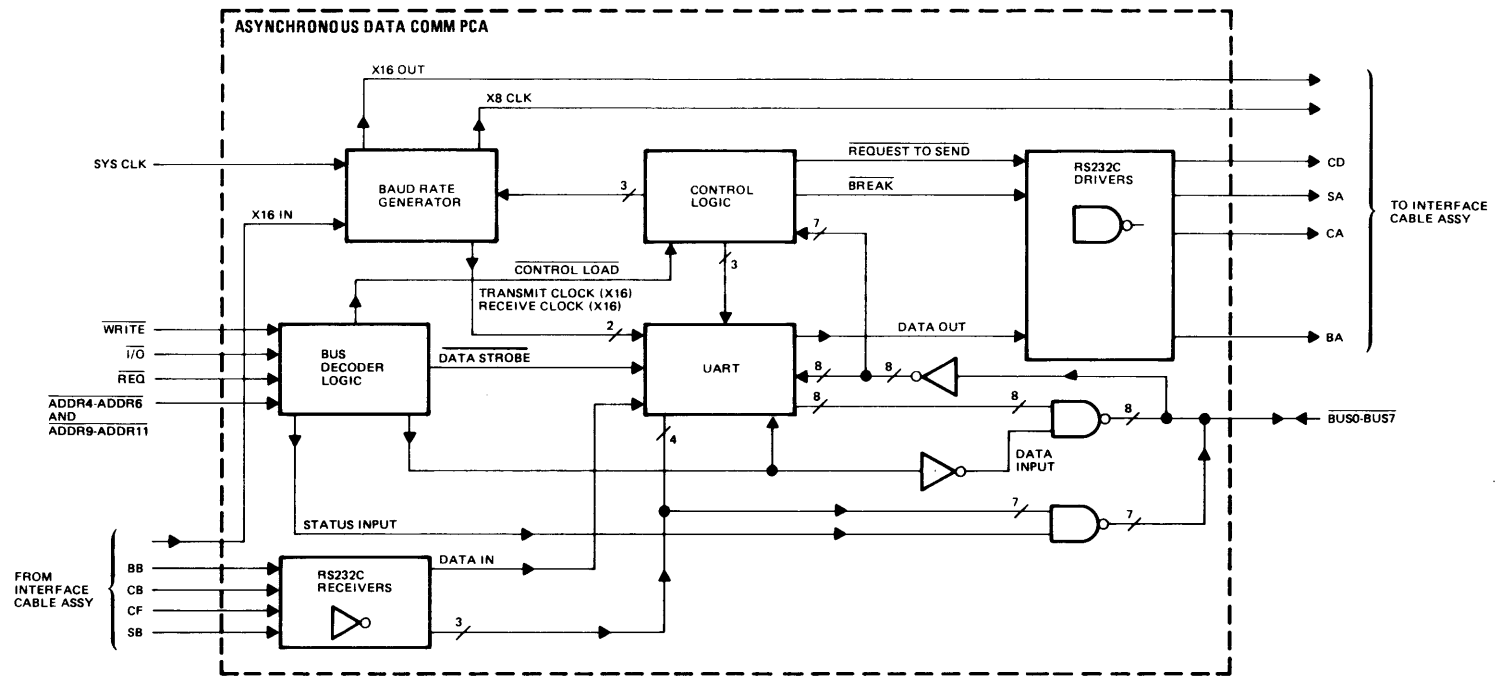

Figure 1
- 3.0 FUNCTIONAL DESCRIPTION. Refer to the block diagram (figure 1), schematic diagram (figure 2), component location diagram (figure 3), and parts lists (02640-60043, 02640-60058, 02640-60059, 02640-60077, 02640-60086, 02640-60131, and 02645-60002) located in the appendix.